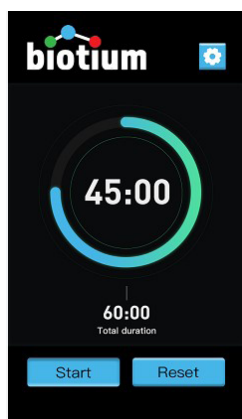

Figure 2. Example Glo-Plate™ 2.0 main menu display screen.
1. Turn the Glo-Plate™ 2.0 on. The power switch is located on the back of the device. The display will illuminate with the main menu (Figure 2).
3. Once the desired time is set, press the back arrow button in the top right-hand corner of the display screen to return to the home screen. The running time will be displayed in the center of the screen. The total duration is displayed below the running time on the home screen (Figure 2).